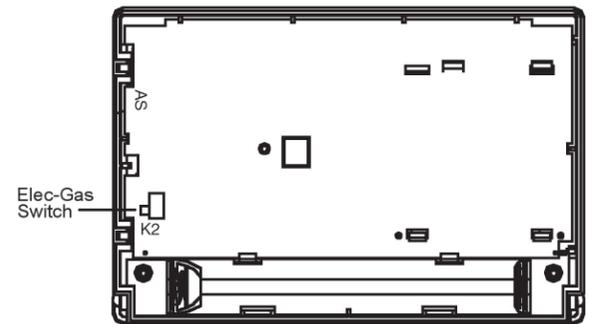

Figure 1. Electric/Gas Switch (Fan Option)
This thermostat is configured from the factory to operate a heat/cool, fossil fuel (gas, oil, etc.), forced air system. It is configured correctly for any system that DOES NOT require the thermostat to energize the fan on a call for heat. If your system is an electric heat or heat pump system that requires the thermostat to turn on the fan on a call for heat, locate the ELEC/GAS switch on the back of the thermostat (see Figure 1) and switch it to the ELEC position. This will allow the thermostat to energize the fan immediately on a call for heat. If you are unsure if the heating/cooling system requires the thermostat to control the fan, contact a qualified heating and air conditioning service person. When the thermostat is configured for heat pump, the thermostat will always power the circulator fan on a call for heat in the HEAT mode. The ELEC/GAS switch must be set to match the type of auxiliary heat your system uses for proper operation in the EMERGENCY mode.
5. Fasten base loosely to wall, as shown in Figure 1, using two mounting screws. Place a level against bottom of base, adjust until level, and then tighten screws. (Leveling is for appearance only and will not affect thermostat operation.) If you are using existing mounting holes, or if holes drilled are too large and do not allow you to tighten base snugly, use plastic screw anchors to secure base.